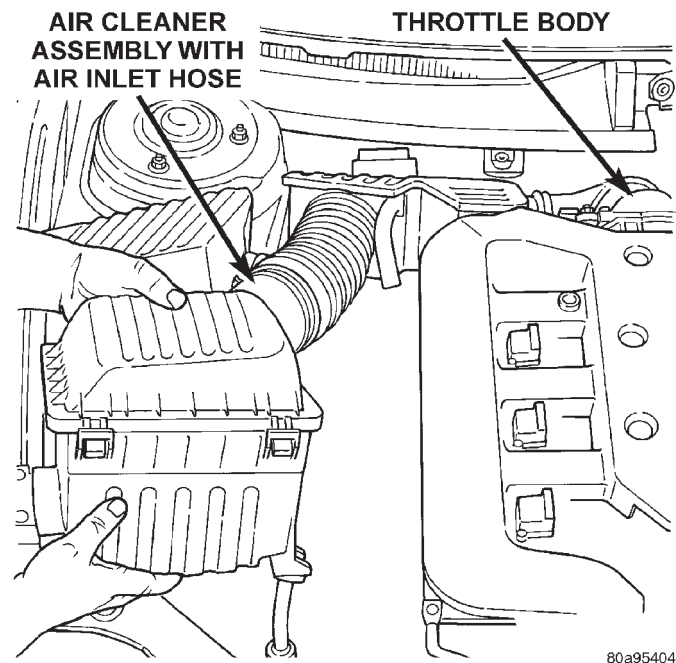

Fig. 29 Air Cleaner With Inlet Hose
- (6) Remove air cleaner assembly with air inlet hose (Fig. 29).
- (7) Remove upper radiator crossmember. Refer to Group 23, Body for procedure.
- (8) Disconnect hood release cable from hood latch.
- (9) Remove fan module.
- (10) Drain cooling system. Refer to Group 7, Cooling System for procedure.
- (11) Remove A/C and accessory drive belts. Refer to Group 7, Cooling System for procedure.
- (12) Disconnect upper radiator hose at engine.
- (13) Disconnect lower radiator hose at radiator.
- (14) Disconnect engine oil and transmission cooler lines at radiator.
- (15) Remove power steering line bracket at left side of radiator.
- (16) Remove fasteners attaching air conditioning condenser to radiator.